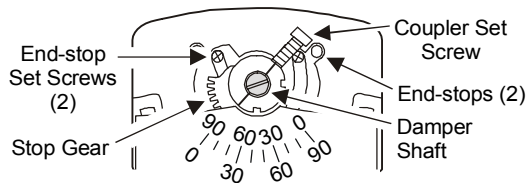

Figure 5: Setting the Rotation Range
If the damper shaft rotation is less than 90°, the rotation range of the actuator has to be adjusted with the scale on the actuator cover. (See Figure 5.)
- For a rotation range of 90°, move both end-stop set screws fully up as shown in Figure 5.
3. Use a No. 2 Phillips screwdriver to loosen the end-stop set screw on the actuator that is closest to the stop gear, and move it in its slot so it is tight against the stop gear. (See Figure 5.)